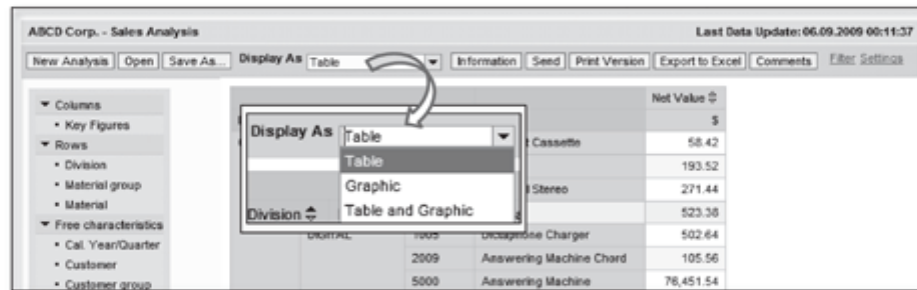

Figure 10.44 BEx Web Analyzer Function - Display Graphic
- **Display As:** Selecting an option from the Display As dropdown, you can display the analysis result as a graphic, a table, or as both a table and graphic together (Figure 10.44).